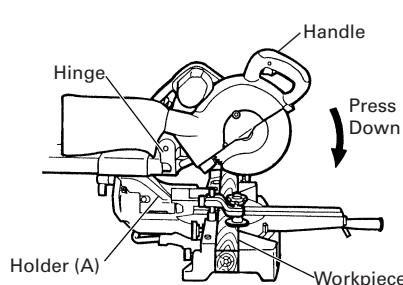

Fig. 28
Slide the hinge down to holder (A), then tighten the slide securing knob (see Fig. 2) as indicated in Fig. 28.